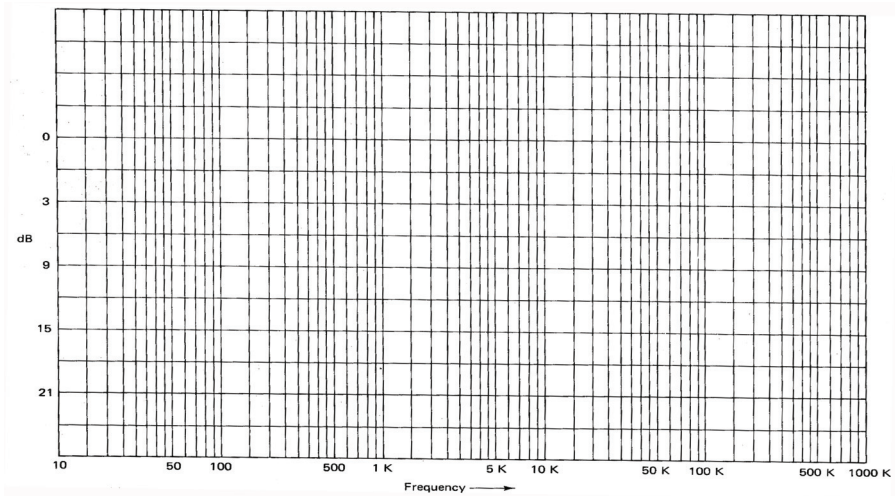

Figure 19.6 Decibel values used to plot frequency response.
Decibel values are also used to plot frequency response curves, as shown in **Figure 19.6**. This unit of measure is determined by a **logarithmic scale**. Our ears, for example, respond to logarithmic changes in sound. A sound level that physically increases by 10 times (10 dB) appears only as an increase of one time to the human ear, or a doubling in loudness. Likewise, a sound level that increases 100 times (20 dB) appears as an increase of twice as loud as the previous value, or as an increase by a factor of four times the initial loudness level. In this system, a sound level or power level of 0 dB is considered to be at the threshold of hearing or reference level.
While developing the **frequency response curve** of a filter (see **Figure 19.6**), the first step is to determine the critical (3 dB-down) frequency or frequencies. For example, in the case of the low-pass filter circuit shown in **Figure 19.8(a)**, the critical frequency is determined by the formula: $f_c = \frac{1}{2\pi RC}$ to be 5843 or 5.8 kHz. The power gain/loss of the filter remains at approximately 0 dB starting from 0 Hz (DC) through its critical frequency of 5.8 kHz. The -9 dB frequency is obtained next by doubling the -3 dB frequency, i.e., $f_{-9\text{dB}} = 2 \times f_{-3\text{dB}} = 2 \times 5.8 \text{ kHz} = 11.6 \text{ kHz}$. The -15 dB frequency is approximately four times the critical frequency (23.2 kHz), and the -21 dB frequency is eight times the critical frequency (46.4 kHz). For plotting the **frequency response curve**, the gain/loss values in decibels are plotted according to specific multiples of the critical frequency, for example (-3 dB, 5.8 kHz) or (-9 dB, 11.6 kHz). These points are connected forming the frequency response curve for the low-pass filter of **Figure 19.8(a)**.